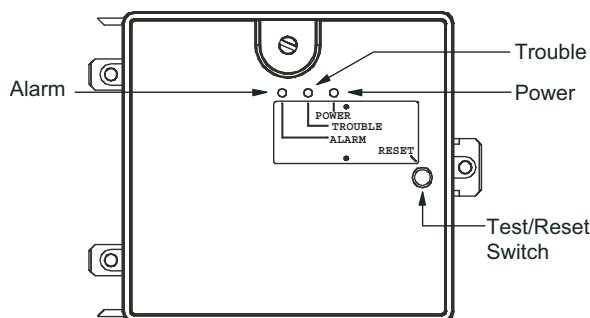

Fig. 56 — Controller Assembly
- The contacts on the controller's supervisory relay switch positions. (See Fig. 56.)